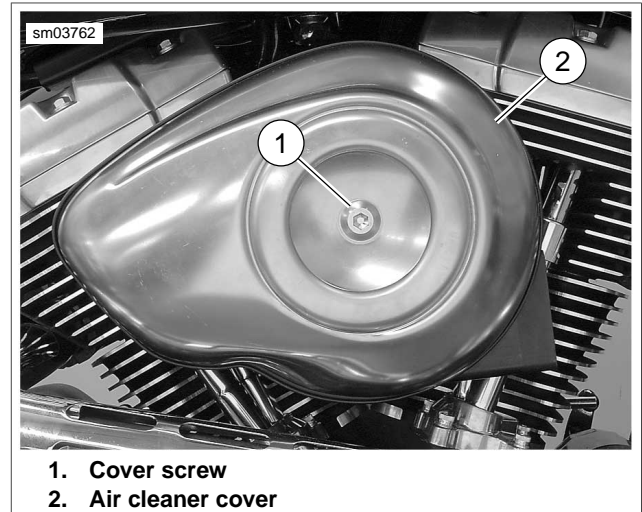
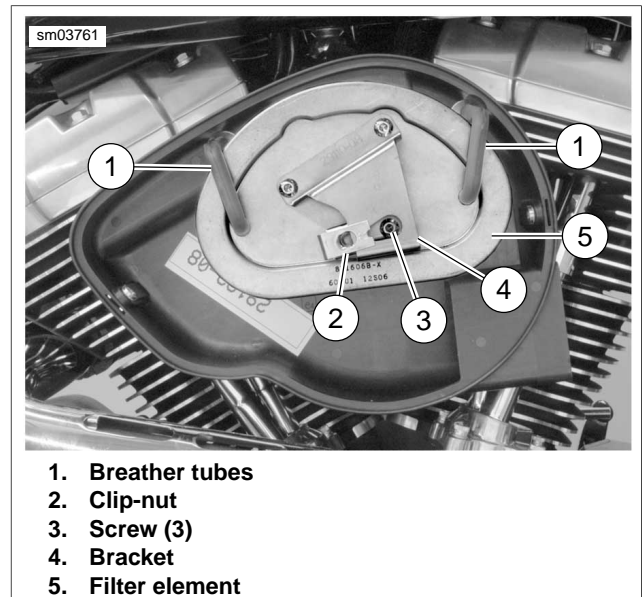

Figure 1-9. Air Cleaner Cover
Figure 1-10. Air Cleaner Element
1. See Figure 1-9. Remove screw (1) and air cleaner cover (2).
2. See Figure 1-10. Gently pull both rubber breather tubes (1) from the element.
3. Slide clip-nut (2) to the left to allow access to third screw. Remove three screws (3), bracket (4) and filter element (5).
2. See Figure 1-10. Attach breather tubes (1) to breather screws on backplate.
3. Install air filter element (5) and bracket (4) using three screws (3). Tighten to 40-60 **in-lbs** (4.5-6.8 Nm). Slide clip-nut (2) to the right and into place.
4. Insert breather tubes (1) into holes in filter element.
5. See Figure 1-9. Install air filter cover (2).
- a. Apply a drop of LOCTITE THREADLOCKER 243 (blue) to threads of air cleaner cover screw (1).